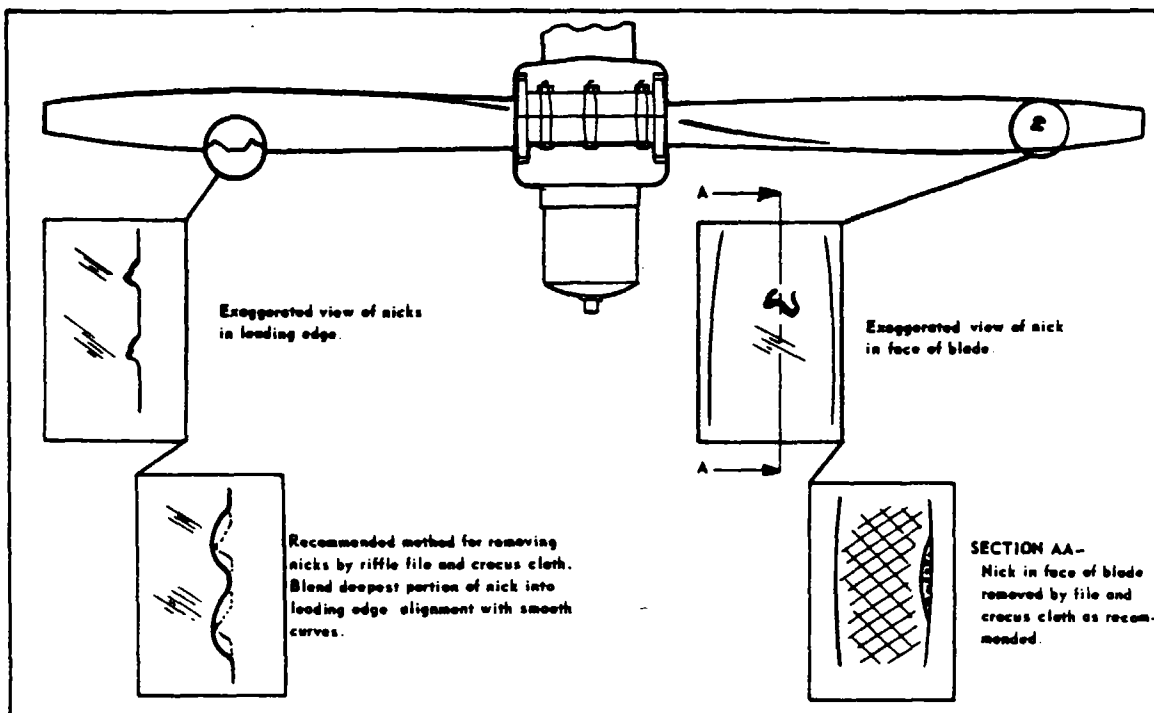

Figure 8A-2. Propeller Blade Minor Repair
- g. Inspect blades for damage or cracks. Nicks in leading edges of blades should be filed out and all edges rounded, as cracks sometimes start from such places. Use fine emery cloth for finishing. Refer to Figure 8A-2 for propeller blade care.